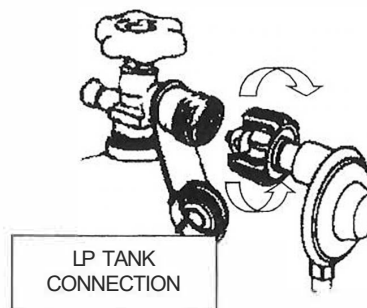

FIGURE 12
- 3- Turn the fitting clock-wise until snug. DO NOT OVER TIGHTEN! (SEE FIGURE 12)